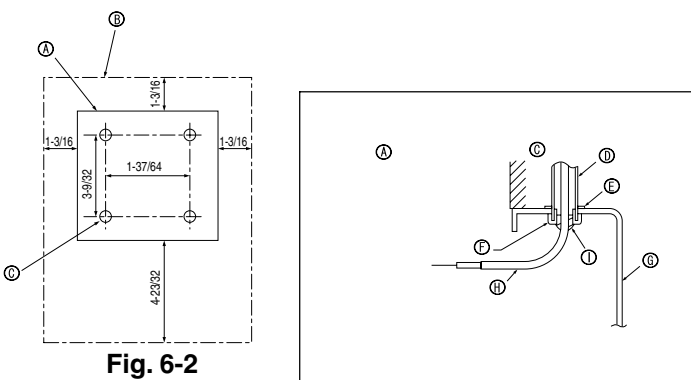

Fig. 6-2
(1) Select an installing position for the remote controller. (Fig. 6-2)
[Fig. 6-2]